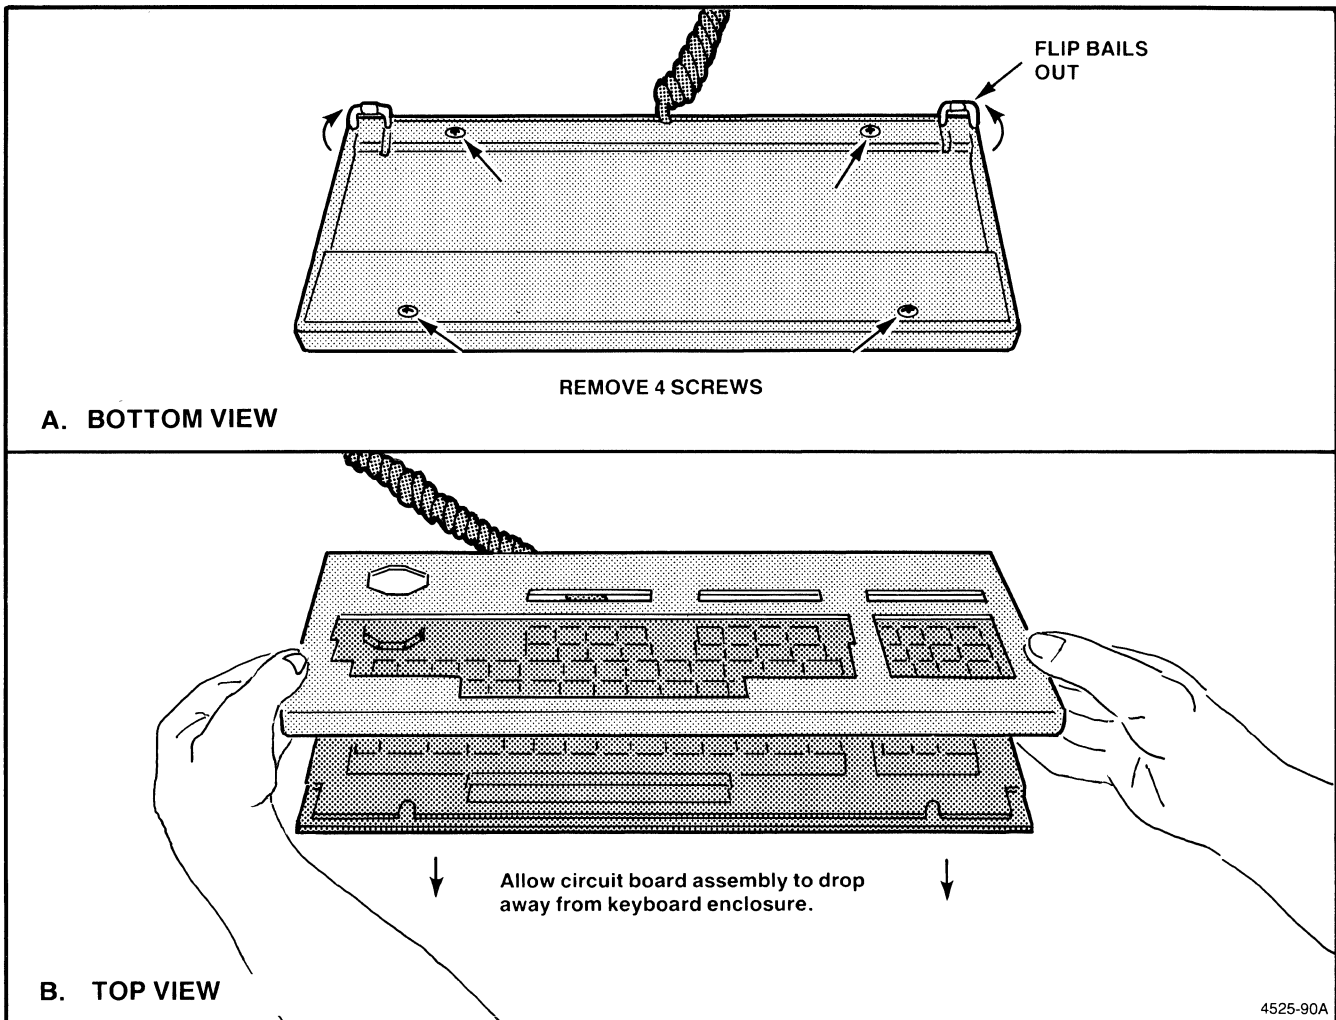

Figure 6-20. Separating the Keyboard Enclosure From the Keyboard and Bottom Panel.
2. Unscrew the four screws in the corners of the keyboard bottom panel. See Figure 6-20.
3. Flip the elevating bails outward, as in Figure 6-20.